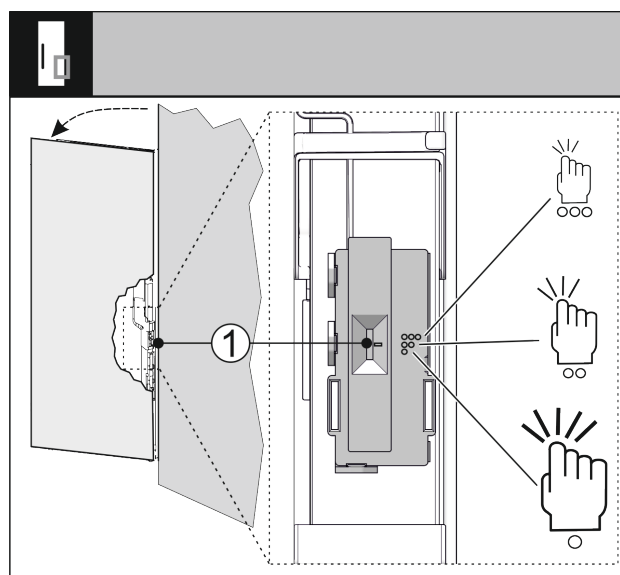

Fig. 92
You can use a switch Fig. 92 [1] to adjust the sensitivity of the knocking sensor. The switch is on the bottom third of the door on the hinge side.
- ▶ Move the switch Fig. 92 [1] to the required switch position.